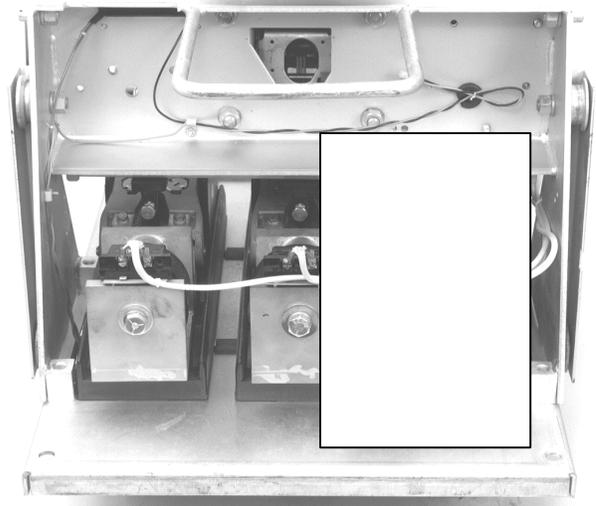

Figure 25. Wiring harness installed on the CTs.
2. Run the CT leads through the inside of the breaker frame, as shown in Figure 25. Connect the harness leads to the screw terminals on each CT. The black wire (tap) connects to the left terminal and the white wire (common) to the right terminal.
3. Use the wire ties provided to secure the harness back against the frame. Tie the harness to each CT assembly, as shown in Figure 25. Ensure that the wiring will not interfere with any moving parts.